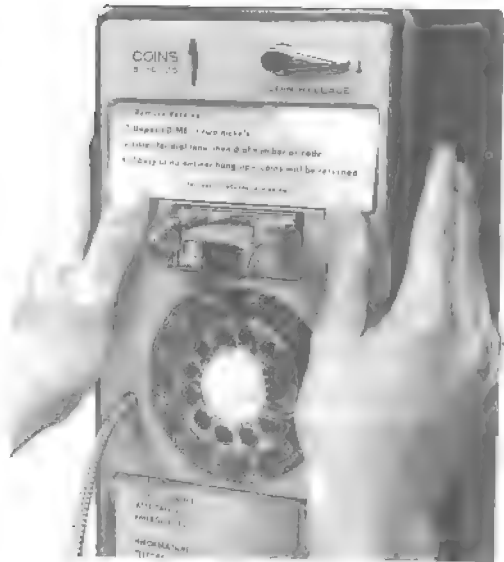

Fig. 12—Installing Instruction Cards (1A-Type)
- Push up with fingers (Fig. 12;